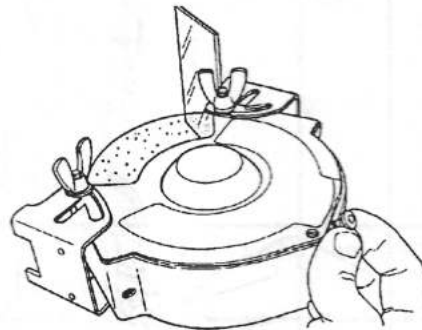

Fig. 17
**18.** Thread a button head cap screw (22) through the guard cover and into the guard. See Fig. 17.